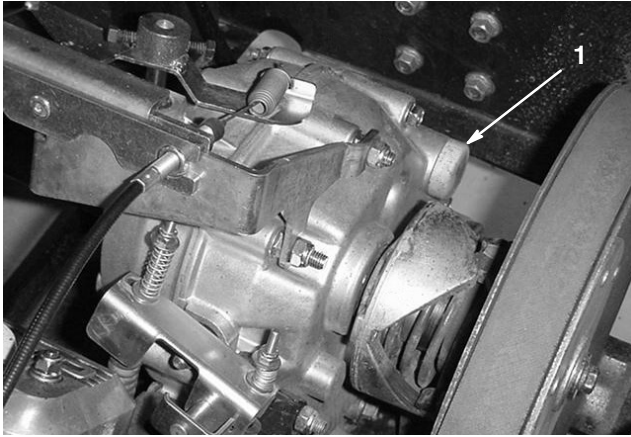

Figure 43
3. Fill the reservoir (Fig. 43) with approximately 1-1/2 qt. (1.4 liters) of SAE 10W30 motor oil or until the oil level is at the bottom of the level indicator hole (Fig. 42).